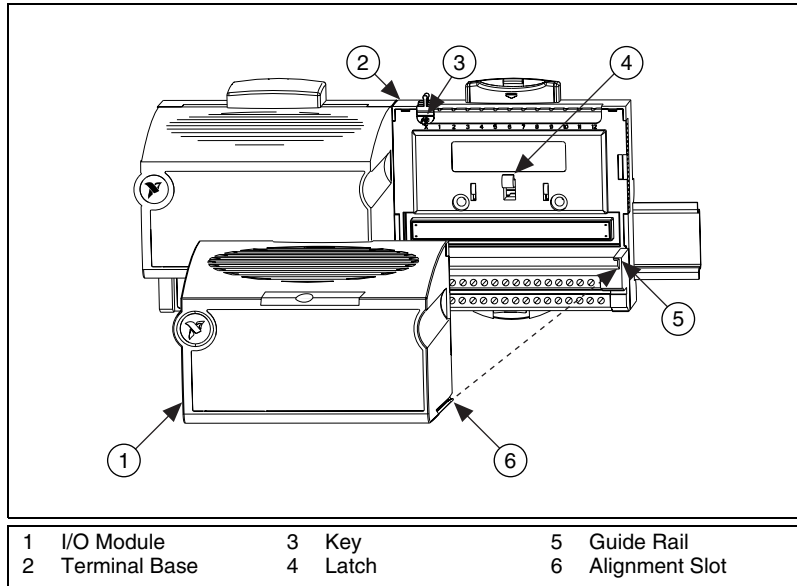

Figure 2-5. Mounting I/O Module to Terminal Base
2. Position the first module with its alignment slots aligned with the guide rails on the terminal base, as shown in Figure 2-5.